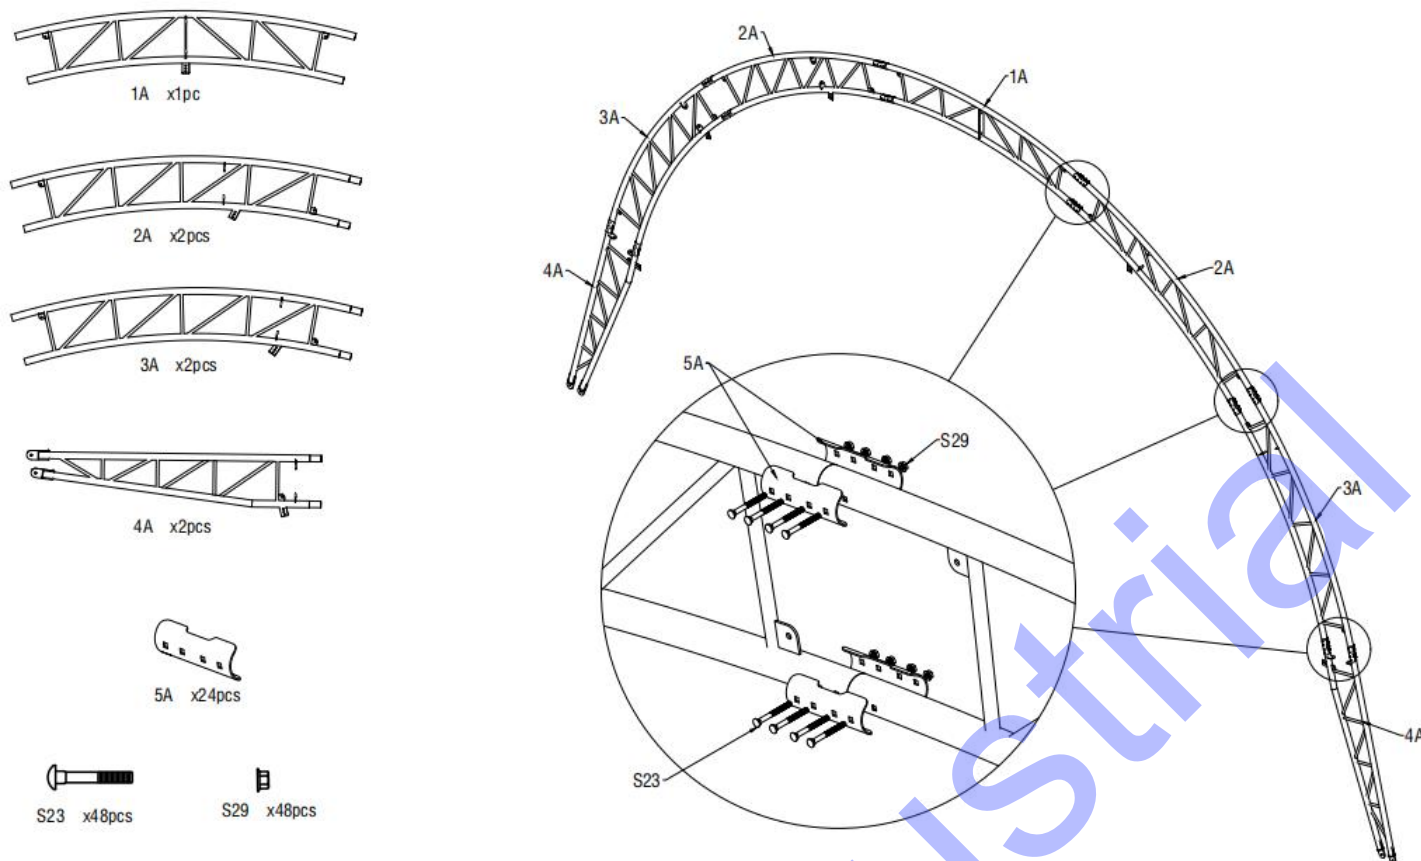

Figure 3
1. As Figure 3 shown to find one Top roof tube in the front and back door (No.1A), two Roof upper curving tube in the front and back door(No. 2A), two Roof middle curving tube in the front and back door (No. 3A) ,two Lower curving tube in front and back door(4A) and assemble the first group and final group arch with Screw M8x80 (No.S23). **DO NOT install the screw on the top of the truss where the fabric will rest.**